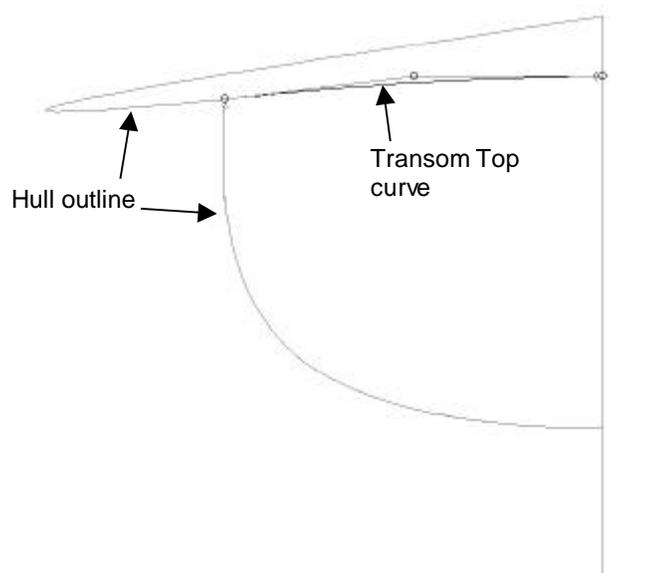

Figure 4-4: Transom Top curve
6. In *Front view*, edit *Transom Top* to the desired shape of the transom at deck level. You should position the middle control point at the same height as the vertex at centreline in order to maintain tangency across the centreline. (See Figure 4-4.)